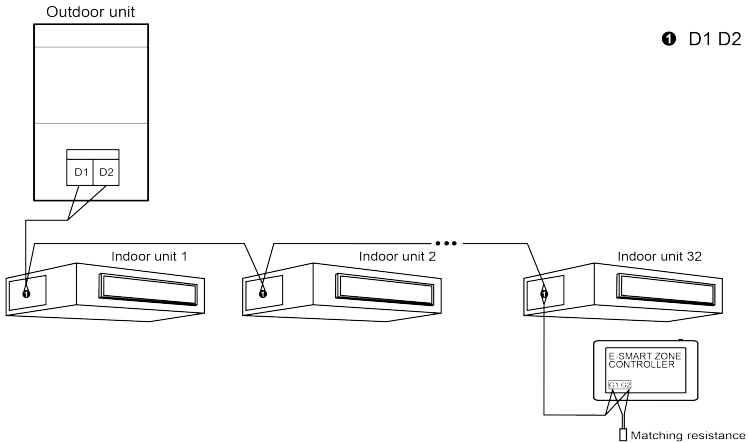

Fig.3.4 Centralized Controller Connected with IDU Network
- (1) The smart centralized controller is applicable to multi VRF units, connectable with IDU network, ODU network or mode converter network. One centralized controller can control up to 16 sets of outdoor unit system and up to 32 sets of indoor unit.
- (2) If the centralized controller is to be connected with the IDU network, connect according to Fig.3.4. The controller can connect with any one indoor unit in series, that is, connect the controller's G1 and G2 ports with the D1 and D2 ports correspondingly with communication wires. When the controller is connected with the terminal unit of IDU network, a matching resistance needs to be added with the communication wires at the G1 and G2 ports.